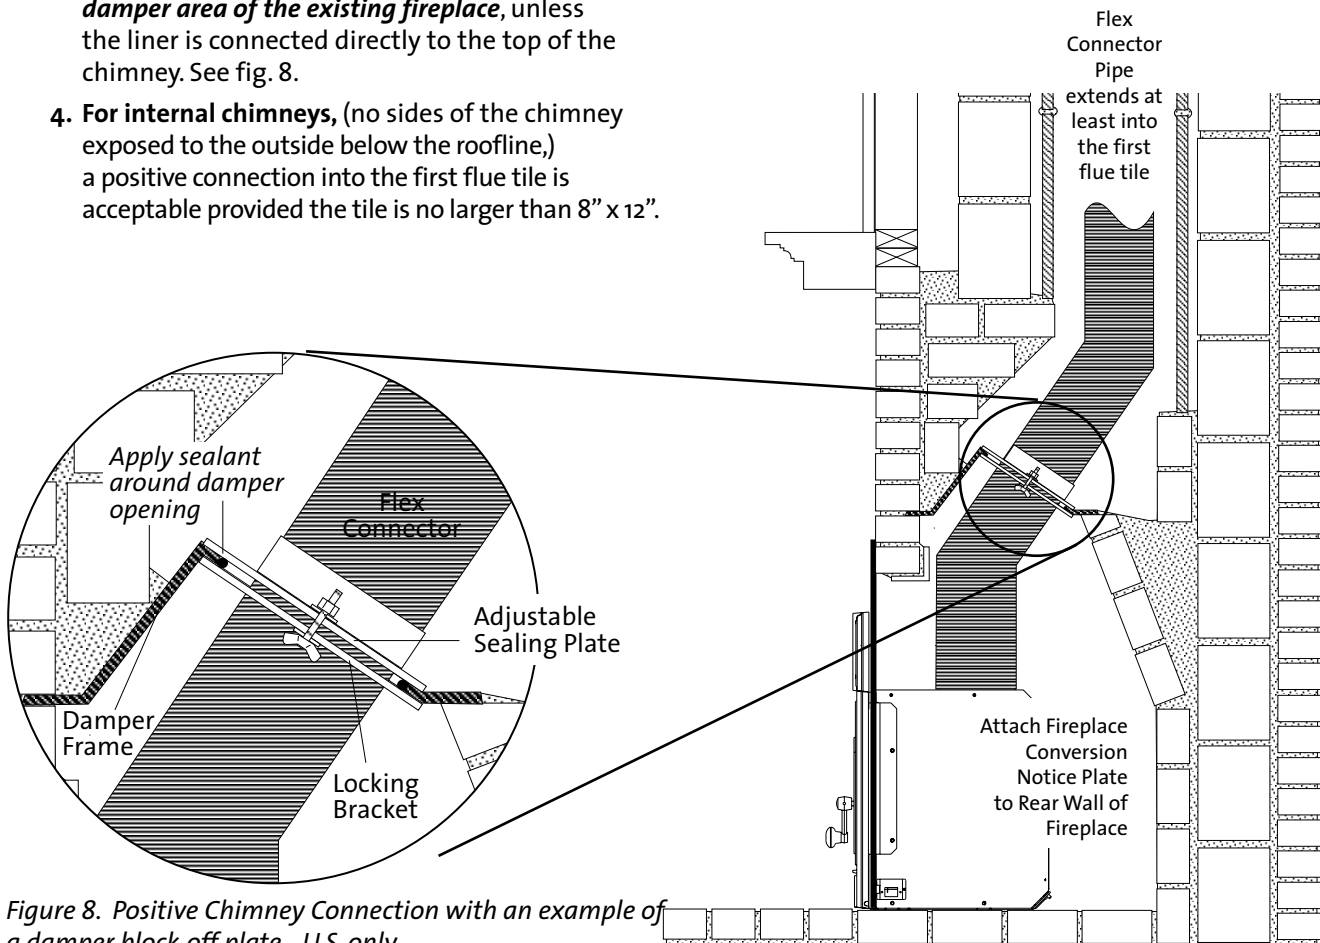

Figure 8. Positive Chimney Connection with an example of a damper block-off plate - U.S. only.
3. **A sealed block-off plate must be installed at the damper area of the existing fireplace**, unless the liner is connected directly to the top of the chimney. See fig. 8.